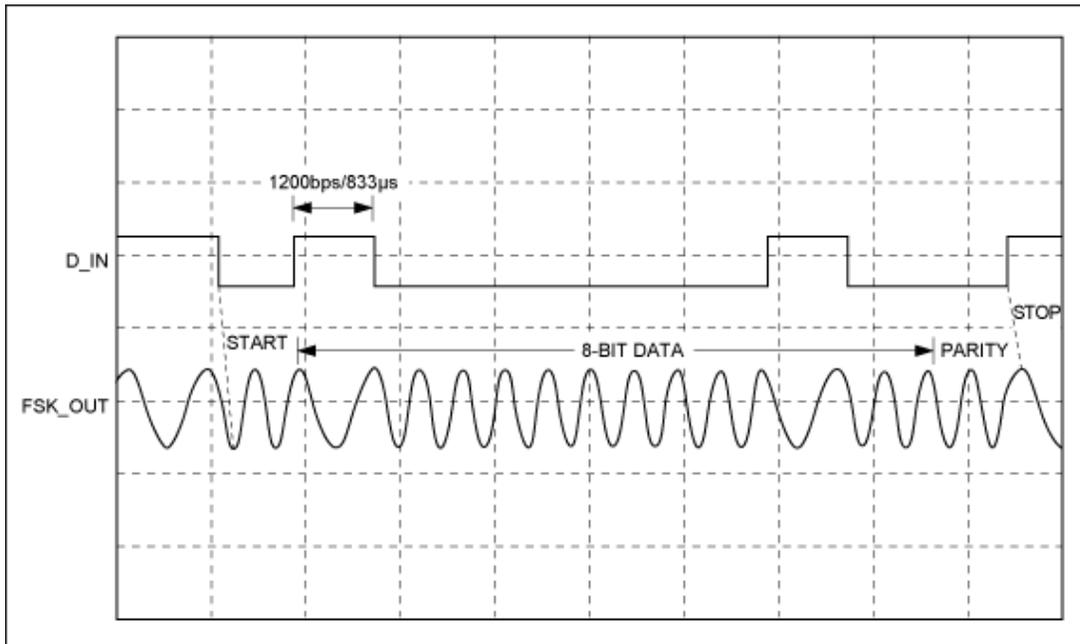

Figure 3. Modulator waveform.
**Figure 3** shows the DS8500 in modulate mode where D\_IN is the input to the modem and FSK\_OUT is the modulated output. The data is provided in an 11-bit UART format.